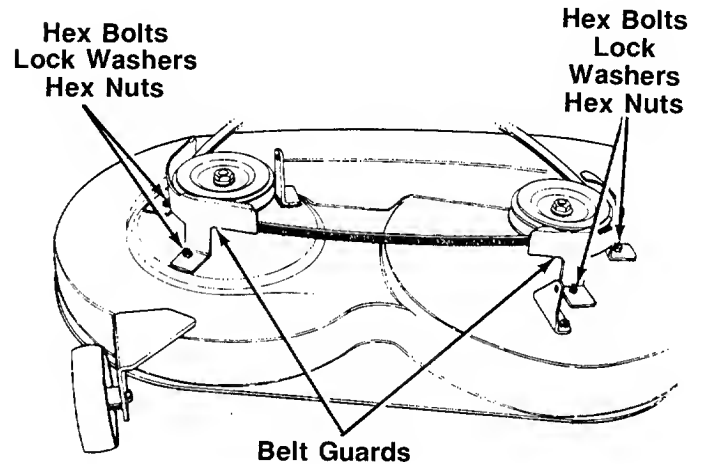

FIGURE 22.
8. Remove the belt guards at each deck pulley by removing the hex bolts, lock washers and hex nuts. See figure 22.